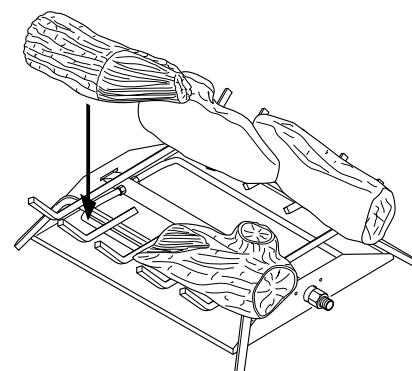

Figure 18 - Placement of Bottom Logs
2. Place one of the bottom logs on the grate and slide forward against the front grate bars. Repeat for other side (see Figure 18).